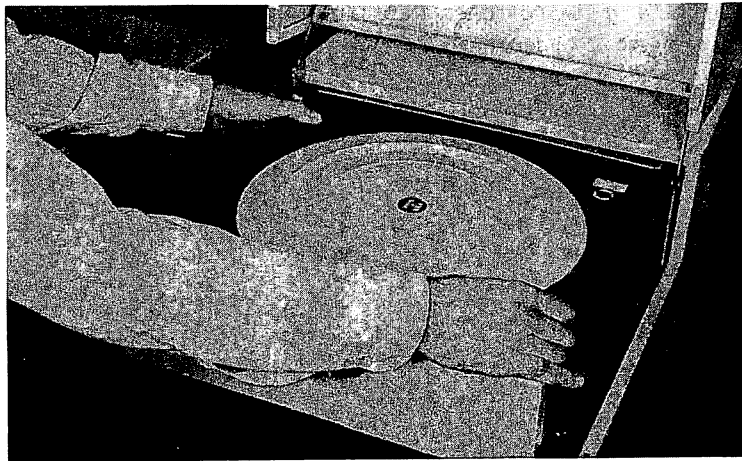

Figure 2-3. Opening the Cartridge Holding Clamps
- Step 2 Open the cartridge bowl by pulling back the two holding clamps (Figure 2-3). If these clamps are locked in the closed position, do not force them. They are locked due to an interlock (see Section 2.6, "Machine Interlocks").
- Step 2 Open the cartridge holding clamps on the disk bowl (see Figure 2-3). If these clamps are locked in the closed position, do not force them; they are locked due to an interlock (see Section 2.6, Machine Interlocks).